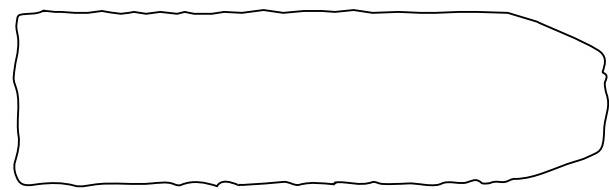

Fig. M8
4. If the envelope is as shown in Fig. M8, adjust the height of Guide Roller [3] (Refer to Fig. M3) so that the waveform looks like the one shown in Fig. M9.